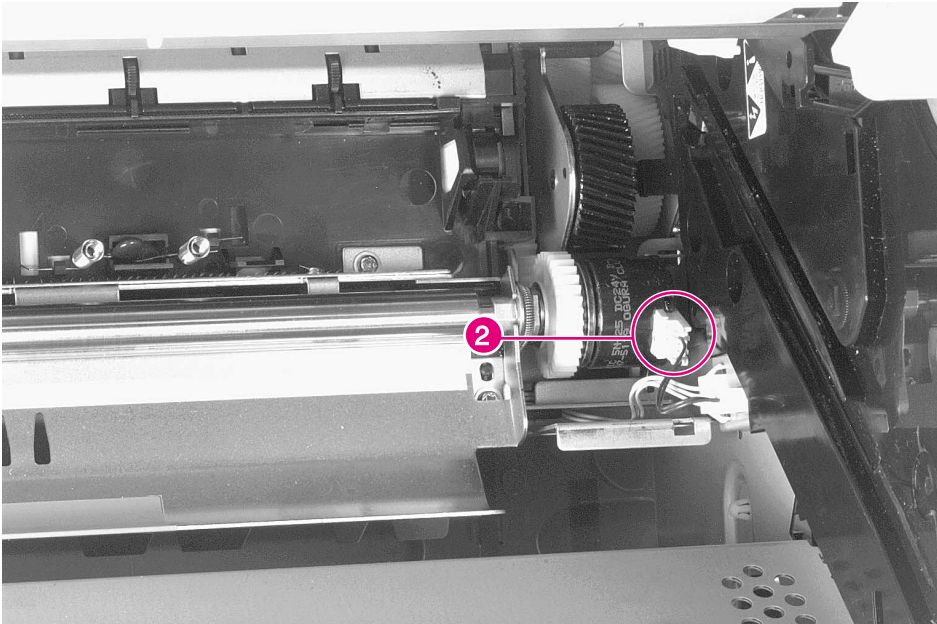

Figure 6-54 **Registration Assembly (2 of 3)**
- 5 Unplug the clutch cable from the clutch on the right end of the Registration Assembly (figure 6-54, callout 2).
- Registration Assembly (see figure 6-54 on page 322)